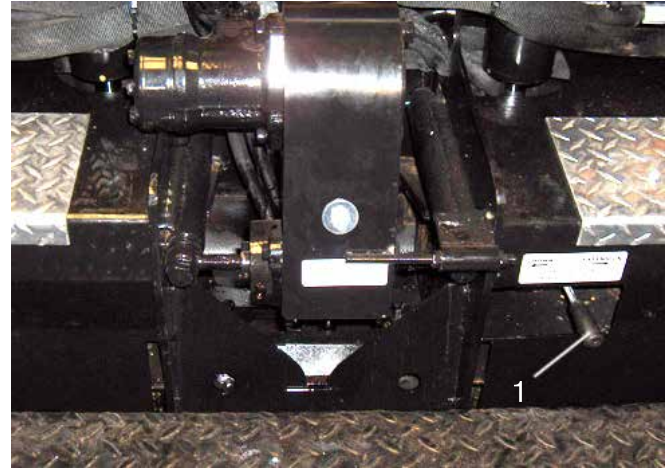

Figure 4-42. Power Crown Assembly
1. Move selector valve (Figure 4-42,1) to the POWER CROWN position.